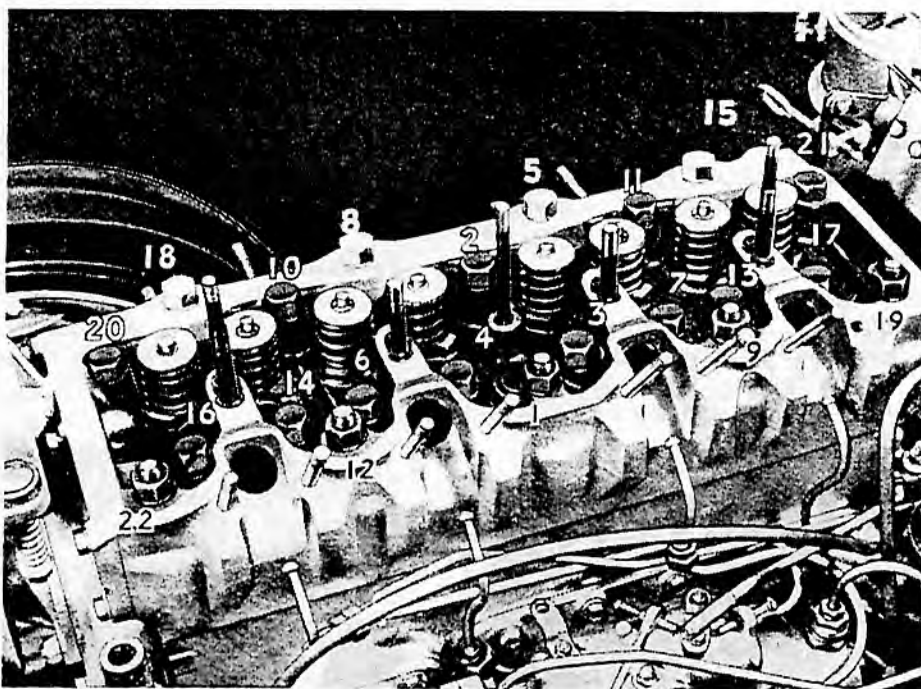

FIG. 120 ORDER OF TIGHTENING CYLINDER HEAD SET SCREWS
3. Loosen the cylinder head set screws and nuts in reverse order to that shown in Fig. 120. Remove cylinder head complete with thermostat housing. Remove cylinder head gasket.
3. Check that pre-combustion chambers are correctly located in their bores in the cylinder head. Remount cylinder head, and tighten set screws and nuts gradually in the order recommended in Fig. 120, to a torque loading of 90-105 lb.ft. (12.4-14.5 kg.m.).